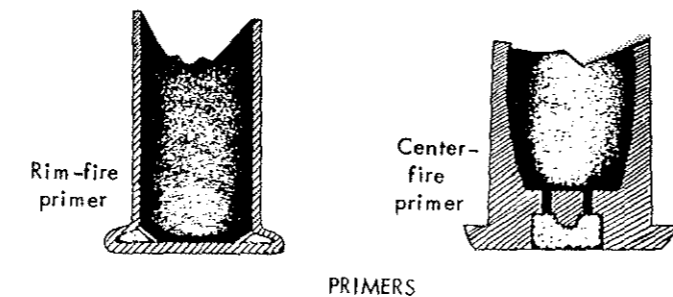

Figure 55.
Primers are generally one of two classes: rim-fire or center-fire. Center-fire primers are divided into two types: (1) the "Boxer" type, the anvil of which is a component of the primer assembly; and (2) the "Berdan" type, the anvil of which is an integral part of the cartridge case. Examples of these are shown in figure 55.
5. *Primer* (fig. 55).